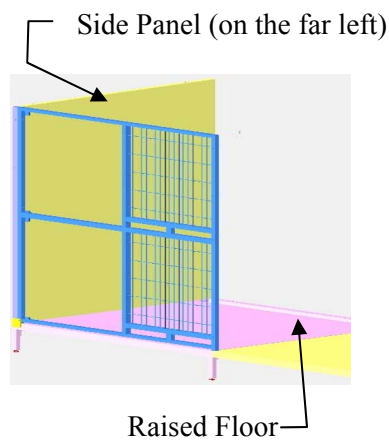

Figure 15
1. Set the first Side Panel (with King Post attached) on the left side of the raised floor. Be sure the bottom of the panel slopes from the front to back of the Kennel. Have a helper hold it in place (**Figure 15**).